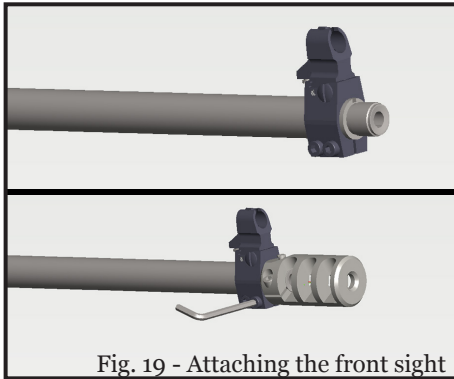

Fig. 19 - Attaching the front sight
2. Attach the front sight by sliding it over the muzzle so that the guiding pin fits into the groove on the barrel. (Fig. 19)